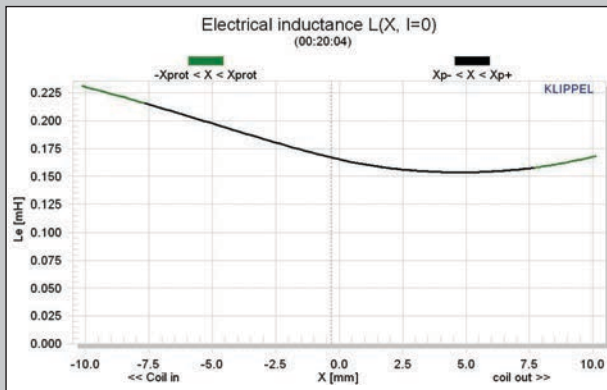

Figure 18: Klippel Analyzer Le(X) curve for the SB Acoustics MW16R
Figure 18 gives the inductance curves Le(X) for the Satori 6.5". Inductance will typically increase in the rear direction from the zero rest position as the voice coil covers more pole area, which is what you see in the MW16R Le(X) curve, however, the variation is only 0.20 mH to 0.15 mH from the in and out Xmax positions, which is very good.